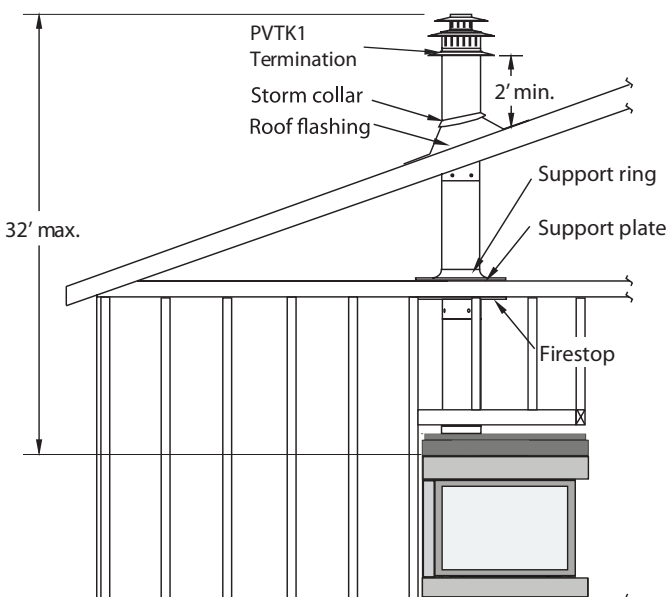

Figure 9. Top vent, Roof mounted termination with no offset in vent run.
- **The Vertical termination must be a minimum 2' higher than where the termination exits the roofing materials, (asphalt shingles, cedar shakes, etc).** This distance should be measured from the high side of the roof slope where the flue flashing intersects the roofing materials. (see **Figures 9 - 9c**).